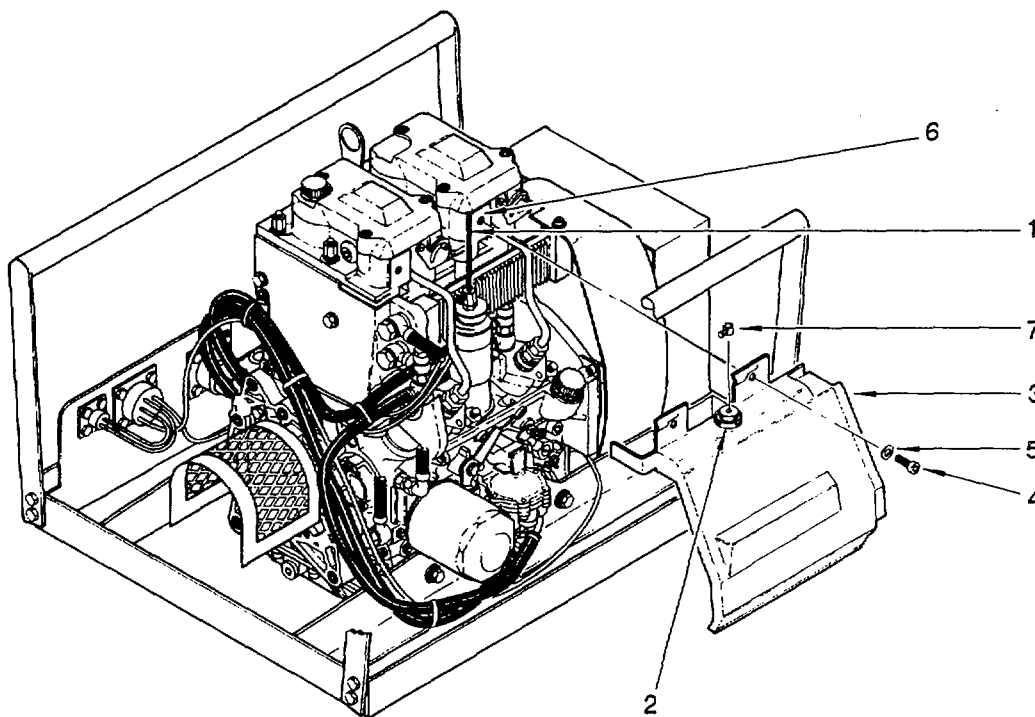

Figure 6-54. Casing Installation
6.4.31 Install Casino. (Refer to figure 6-54.)